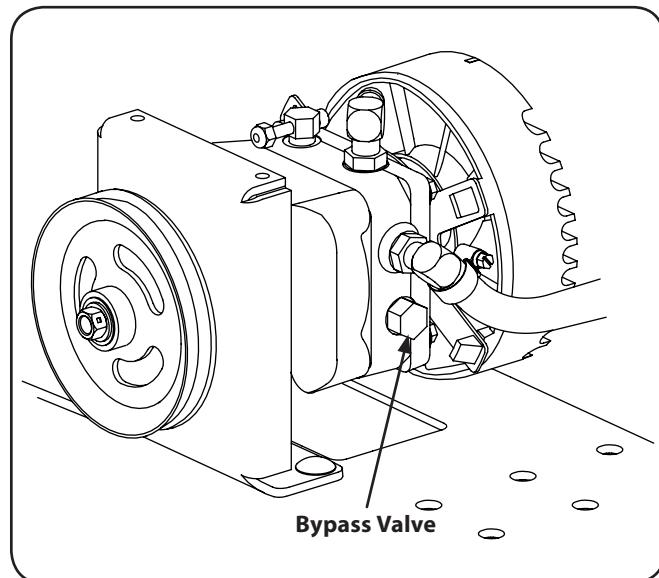

Figure 6-6
- From just in front of the engine and just behind the seat, locate the transmission bypass valves. Refer to Fig. 6-6.